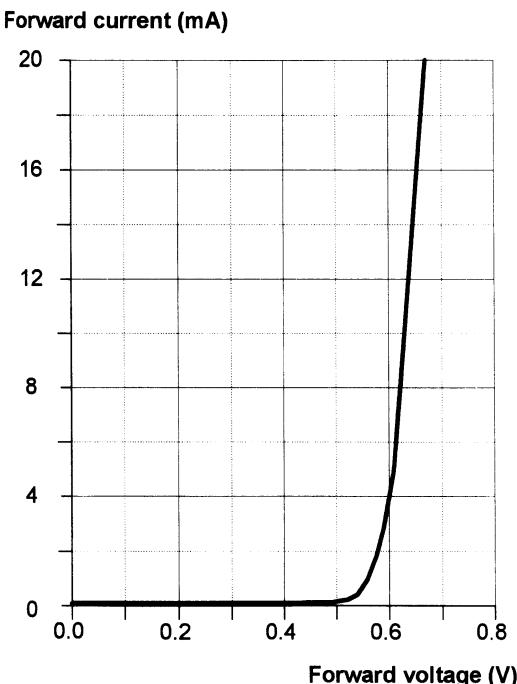

Figure 5.35
5.1 Figure 5.35 shows the characteristics of a diode. What type of material is used in this diode? Give a reason for your answer.
5.2 Use the characteristic shown in Fig. 5.35 to determine the resistance of the diode when